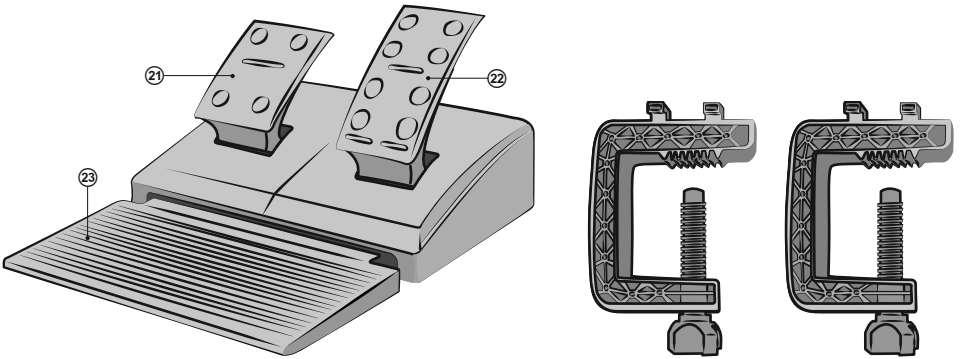

Fig. 5. Foot pedal unit and 2 fixation stands
- Install the device on an even surface (for example, on a table) on its suction caps. If necessary fasten it with the two fixation stands (Fig. 5).
- Connect the pedal unit to the device (Fig. 5) via the pedal unit cable to RJ-11 jack ⑩, then connect USB cable ⑪ of the device to the available USB port of the computer.